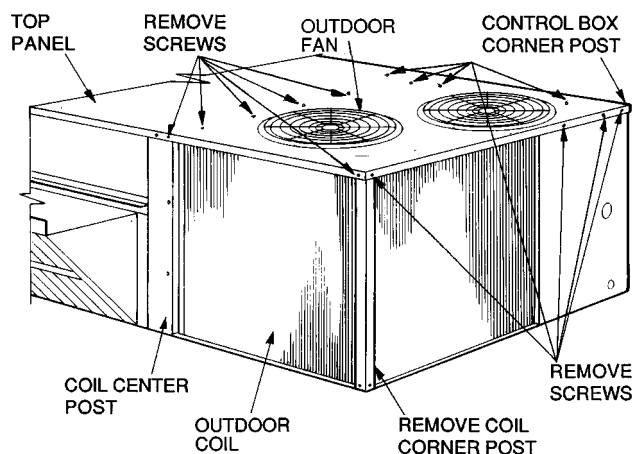
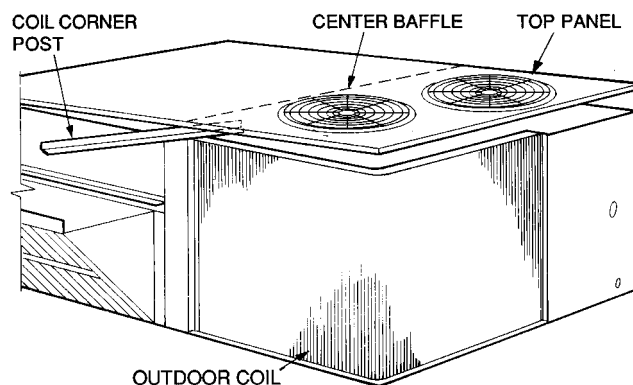

Fig. 27 — Cleaning Outdoor Coil
Fig. 28 — Propping Up Top Panel
3. Remove outdoor coil corner post. See Fig. 27. To hold top panel open, place coil corner post between top panel and center post. See Fig. 28.